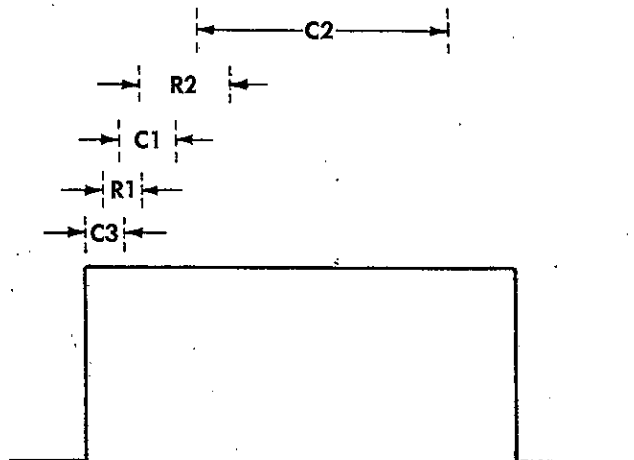

Fig. 2-1. Pulse area affected by each compensation adjustment.
The P6015 Compensating Box contains seven adjustable components. All except R5 (see schematic) vary the time constant of RC networks. The adjustable components and their affect on a 1 kHz square wave (see Fig. 2-1) are as follows:
Compensation can be checked by displaying the oscilloscope calibrator 40-volt output through the P6015 Probe. Adjust the oscilloscope controls (0.02 volts/div, sweep rate 0.5 ms/div) to display a waveform similar to Fig. 2-1. If the waveform has aberrations, compensation is necessary. If the aberrations cannot be corrected by making minor adjustments, proceed as follows:
3. Set the sweep rates for  $50 \mu\text{s}/\text{div}$  and display the leading corner of the square wave. Adjust R1, C3, and C1 for the sharpest leading corner without overshoot (see Fig. 2-1). Each may have to be adjusted several times for the sharpest corner. Maintain 2 divisions of deflection at the leading edge. The R1-C3 combination affects the very corner and C1 affects the area immediately following with some overlap.